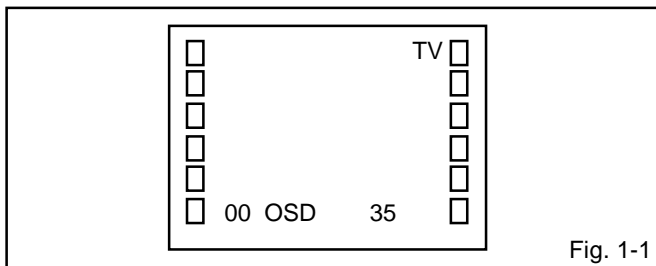

Fig. 1-1
Press the VOL. DOWN button on the set and the Channel button **(9)** on the remote control for more than 1 second to appear the adjustment mode on the screen as shown in **Fig. 1-1**.
4. Activate the adjustment mode display of **Fig. 1-1** and press the channel button **(01)** on the remote control to select "CUT OFF".
4. Activate the adjustment mode display of **Fig. 1-1** and press the channel button **(12)** on the remote control to select "R CUT OFF".
3. Activate the adjustment mode display of **Fig. 1-1** and press the channel button **(03)** on the remote control to select "H. PHAS".
3. Activate the adjustment mode display of **Fig. 1-1** and press the channel button **(06)** on the remote control to select "H. SIZE".
3. Activate the adjustment mode display of **Fig. 1-1** and press the channel button **(07)** on the remote control to select "V. SIZE".
3. Activate the adjustment mode display of **Fig. 1-1** and press the channel button **(08)** on the remote control to select "V. LIN".
3. Activate the adjustment mode display of **Fig. 1-1** and press the channel button **(32)** on the remote control to select "TRAPEZIUM".
3. Activate the adjustment mode display of **Fig. 1-1** and press the channel button **(30)** on the remote control to select "PARABOLA".
3. Activate the adjustment mode display of **Fig. 1-1** and press the channel button **(33)** on the remote control to select "LEVEL".
1. Activate the adjustment mode display of **Fig. 1-1**.
3. Activate the adjustment mode display of **Fig. 1-1** and press the channel button **(16)** on the remote control to select "BRI CENT".